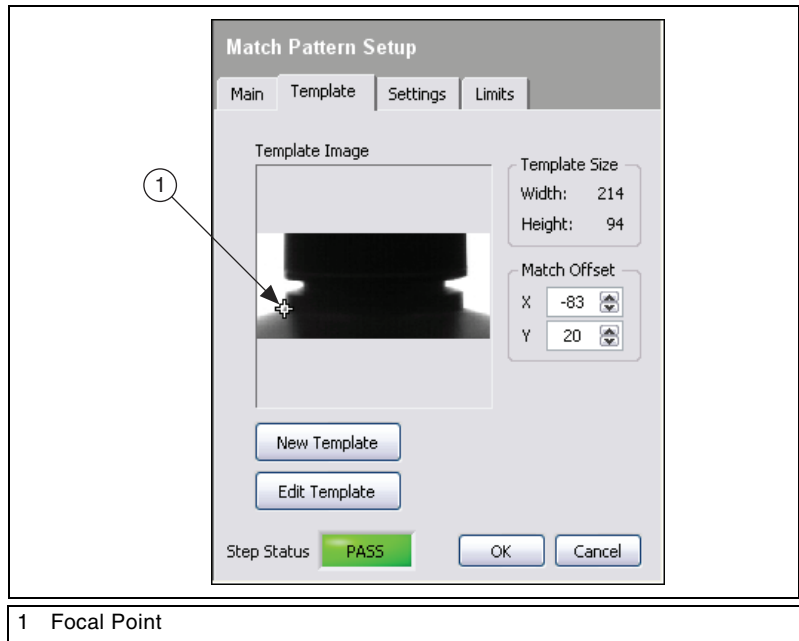

Figure 2-3. Adjusting the Focal Point of the Template
8. On the **Template** tab, drag the red crosshair mark in the template image to the left edge of the sprayer base, as shown in Figure 2-3. This changes the *focal point* of the template.